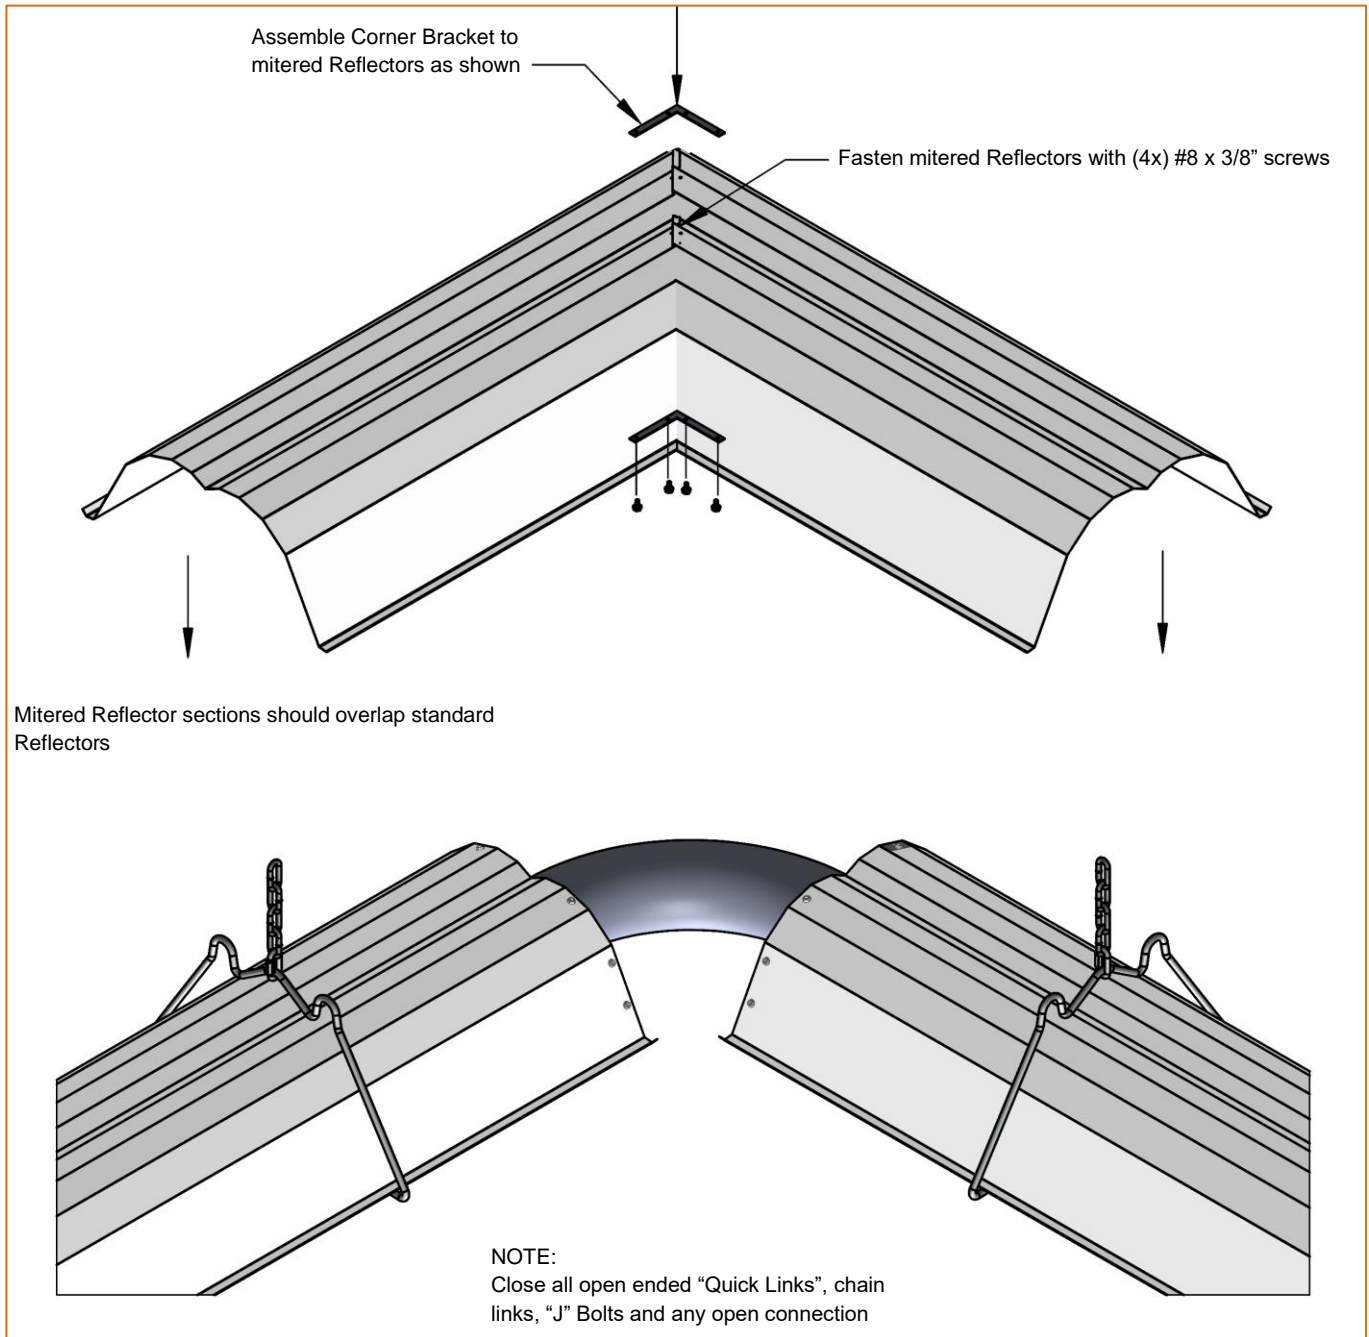

Figure 19: Mitered Reflector Installation
**Note:** Elbows or U-tubes are typically installed without reflectors. To reduce the above clearance to combustibles distance, use miter reflectors (see Figure 19) and refer to Clearance to Combustibles information.
- If used, install the Mitered Reflector as shown below (Figure 19).